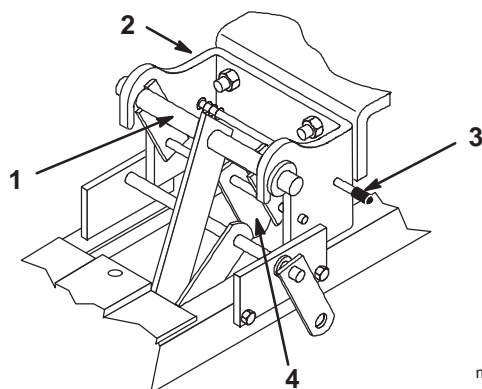

Figure 9
8. Push in on the front hitch release button and open the latch by rotating the latch arm (Fig. 9).
9. Slide the front attachment arm into the tractor hitch (Fig. 9).
10. Close the latch by rotating it back until the release button pops out to lock it in place (Fig. 9).